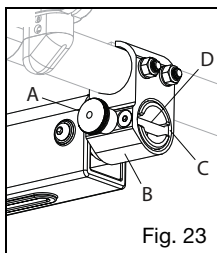

Fig. 23
1. To remove, pull the release knob (Fig. 23:A) to disengage the locking pin and slide the assembly out of the tubular receiver.
2. To insert the assembly, pull the release knob (Fig. 23:A) and insert the assembly into the tubular receiver (Fig. 23:B).
3. Rotate the assembly in the receiver to align the slot (Fig. 23:C) and the cross pin (Fig. 23:D).
4. Release the knob (Fig. 23:A).